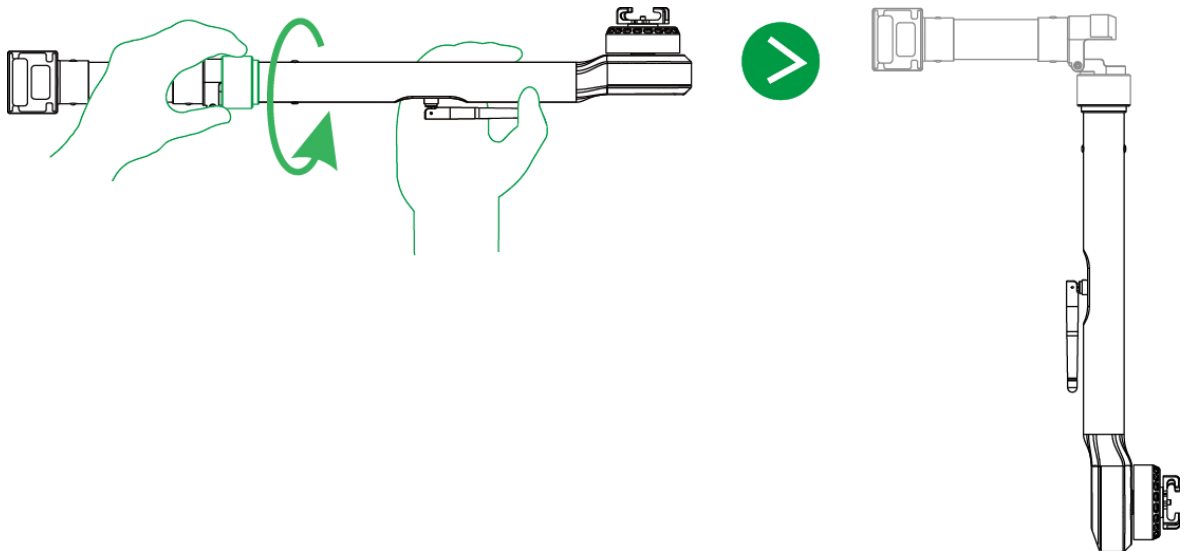

Figure 5-9
Step 3 Hold the arm with left hand, loosen helical casing with right hand and lay down the arm gently, as shown in Figure 5-9.